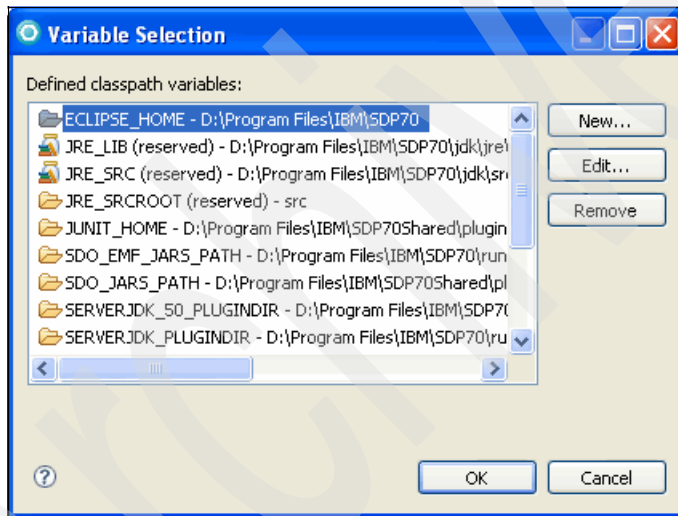

Figure 9-9 Variable selection
4. In the Variable Selection window (Figure 9-9), click **New**.